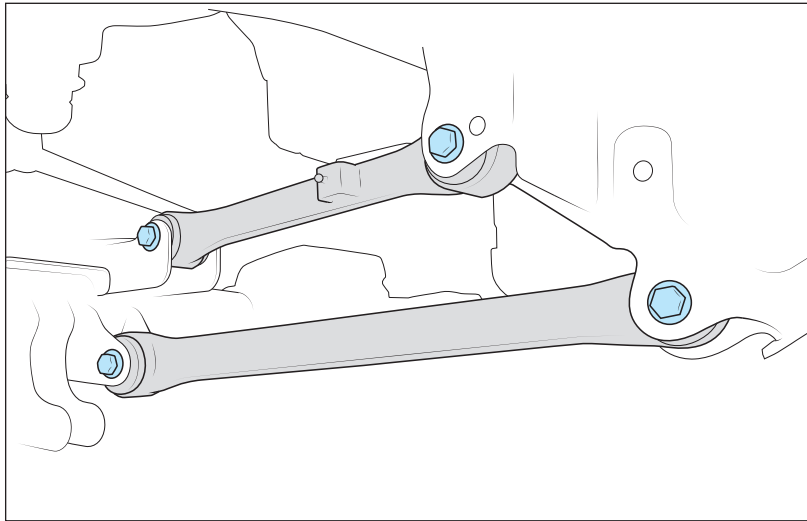

Figure 1: Left side shown.
3. Loosen but DO NOT REMOVE all 8 control arm bolts (fig. 1).